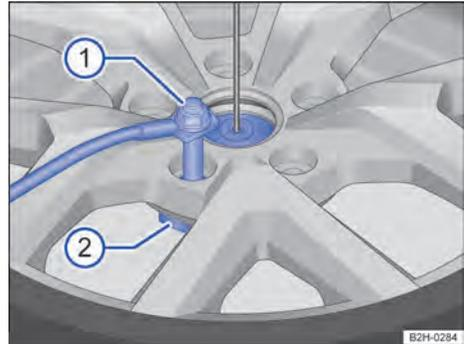

Fig. 207 Spare wheel or temporary spare wheel: Loosening the retaining bolt.
- ① Retaining bolt.
- ② Wheel holder.
3. Use the box spanner to unscrew the securing screw anticlockwise out of the wheel holder → Fig. 207 ①.